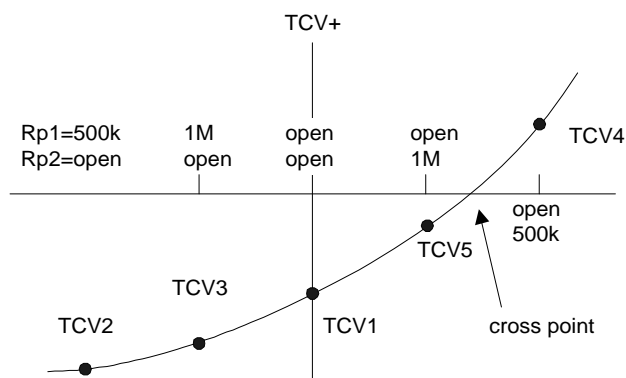

Fig. 7 Rp1, Rp2 vs. TCV
(3) Plot a temperature characteristic line as in Fig.7.
(4) The most suitable condition is the cross point of the line and X-axis. For example in Fig.7, Rp1 must be open (i.e.Rp1 is not needed) and Rp2 must be approximately 750k or so.